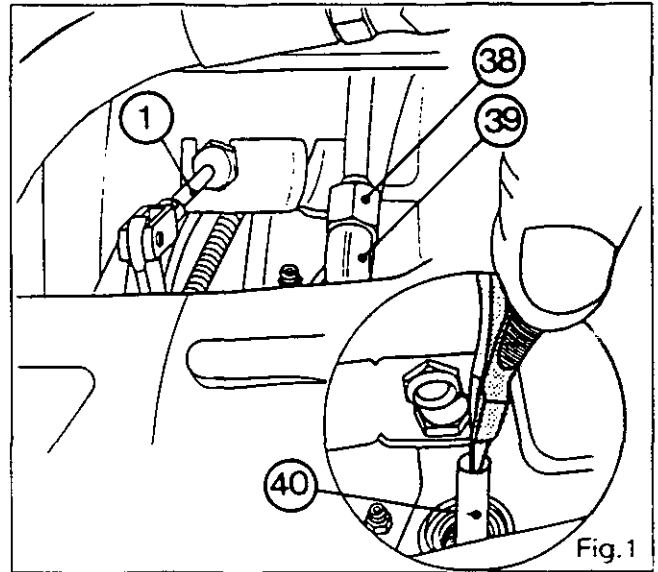

Fig. 1
2. Disconnect the supply tube (38), unscrew the connector (39) and withdraw the tube (40) (Fig. 1).
**Note:** If access to the connector (39) is difficult, on «economy 4-speed p.t.o.» version tractors, remove the control (1) (Fig. 1).
3. Undo the screws (2) alternately so as to release the spring (6) gradually.
4. Remove the carrier (9), the washer (11), the sliding coupler (7) and the spring.
- 19. Fit the pipe (40) and the connector (39) (Fig. 1).
- 23. Disconnect the pressure gauge and connect the supply pipe (38) (Fig. 1).
- 25. Check for leaks of the supply pipe (38) (Fig. 1) and the operation of the differential lock.